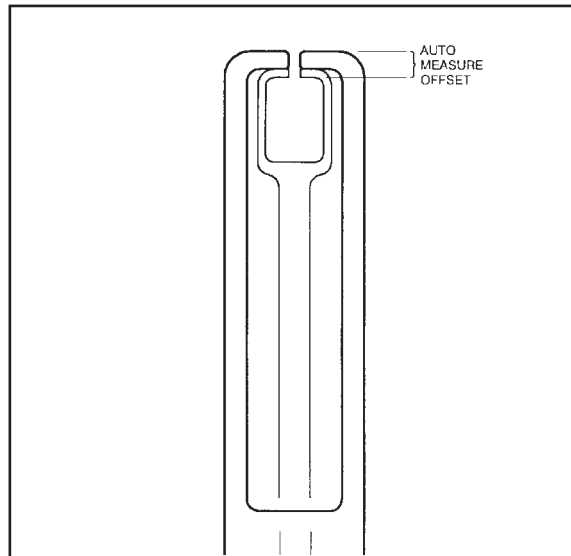

Figure 4.1
4. Carefully align the stage slot with the slot in the top of the probe and position the stage opening to the front. (See Figure 4.1.)